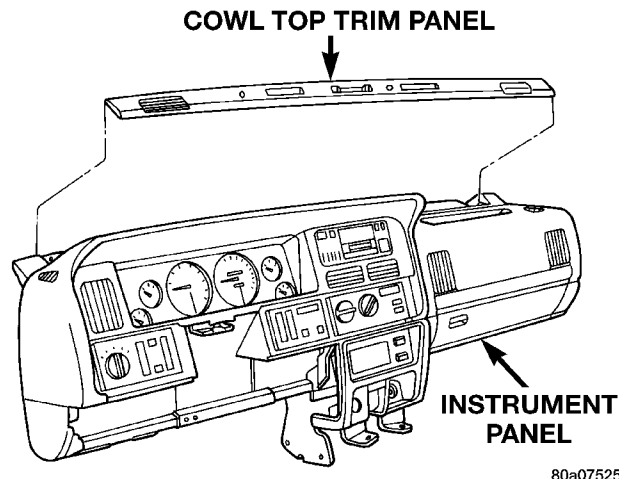

Fig. 21 Cowl Top Trim Remove/Install
(1) Disconnect and isolate the battery negative cable.
(2) Using a trim stick or another suitable wide flat-bladed tool, gently pry the cowl top trim panel off of the instrument panel top pad (Fig. 21).
(3) Pull the trim panel up far enough to access and unplug the wire harness connector for the solar sensor, or to remove the solar sensor from the cowl top trim, if the vehicle is so equipped.
(4) Remove the cowl top trim panel from the instrument panel.
(5) Reverse the removal procedures to install.